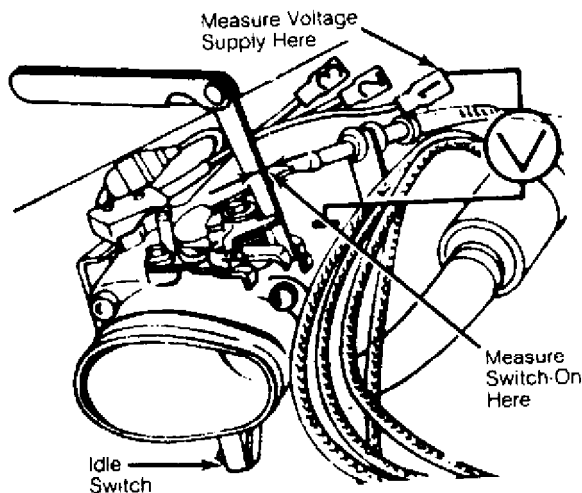

Fig. 15: Adjusting Full Throttle Switch
1) Attach protractor pointer to upper left bolt on throttle valve housing. Attach protractor to secondary throttle valve shaft. Remove shaft nut if necessary. Disconnect throttle switch wiring. Connect ohmmeter between switch terminals. See Fig. 15.